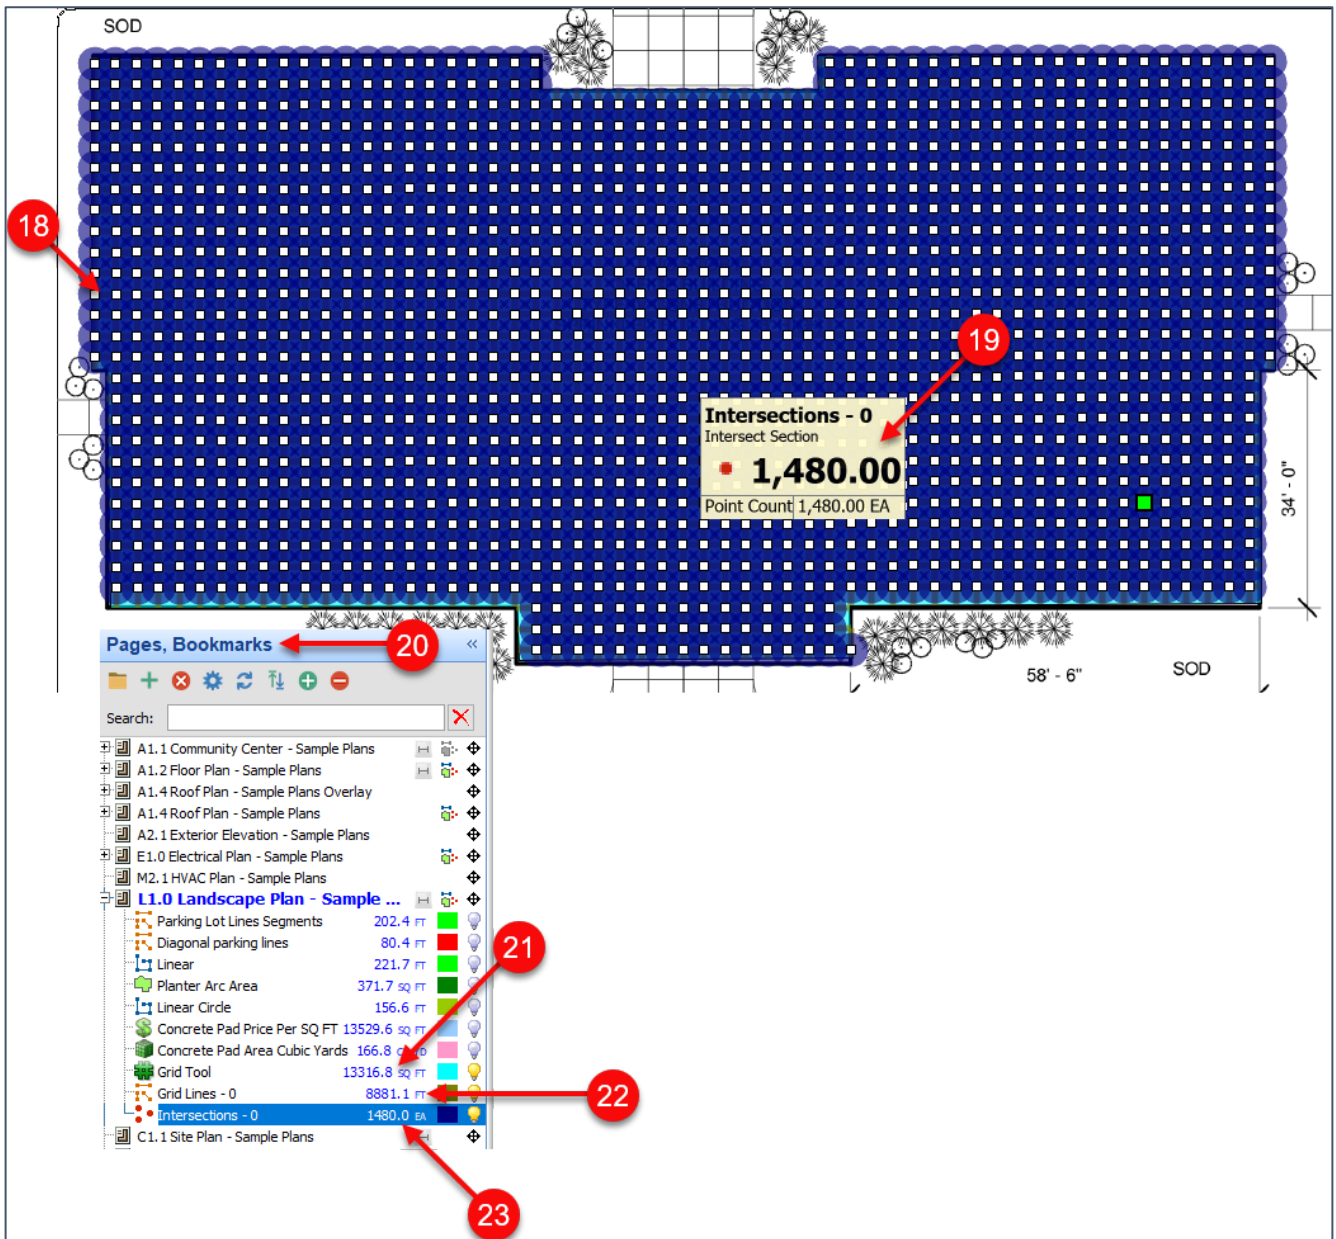

Figure 35-C
11. Click on the **Estimating** tab of the PlanSwift main menu (Fig. 35-D).